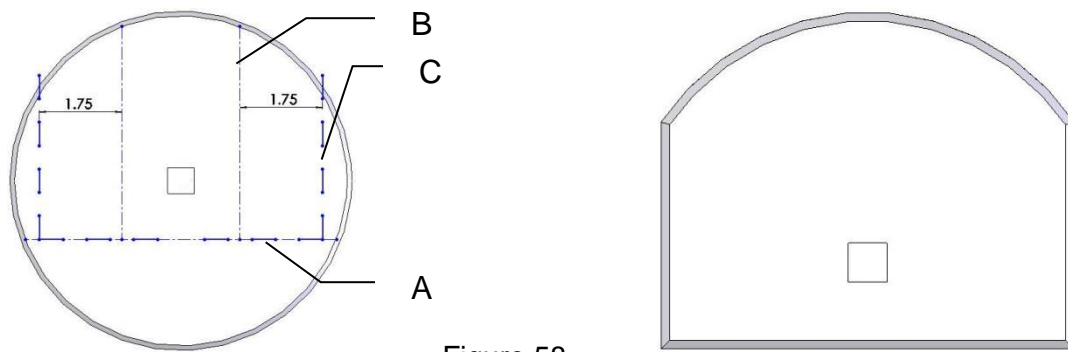

Figure 58
1. Both moisture discs (006-4641H) will need to be cut along the serrated line (A) shown on Figure 58. Measure from the laser etched line (B) 1-3/4" (45mm) on both side. Mark and cut the disc. Completed disc is shown to the top right.
4. Mark a line 1-1/2" (38mm) up and 3-1/2" (89mm) over from point D. Drill a 3/4" hole at the point (E). Repeat for the opposite side.